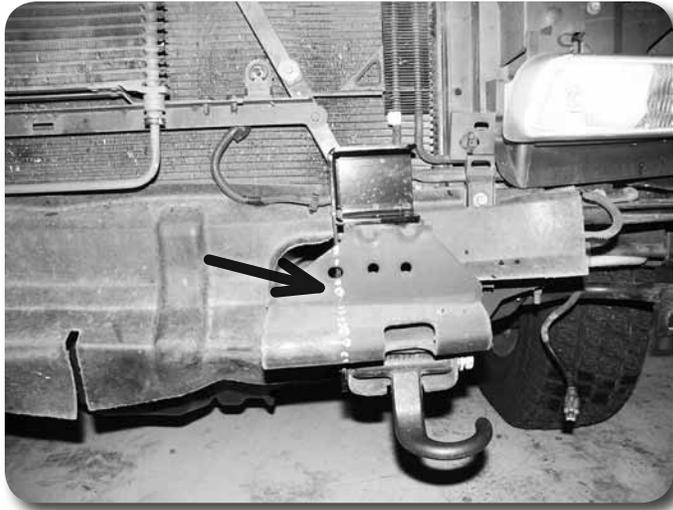

Figure 26
51. The factory front bumper mounts on the frame must be trimmed. Make a cut line on the front mounts that is inline with the inside surface of the frame rail Figure 26. Cut the bumper mount off along the line.